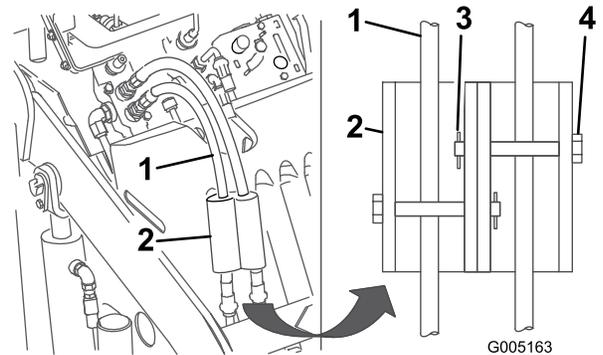

Figure 17
7. Install the cylinder locks over the hydraulic hoses and secure them with the clevis pins and cotter pins (Figure 17).